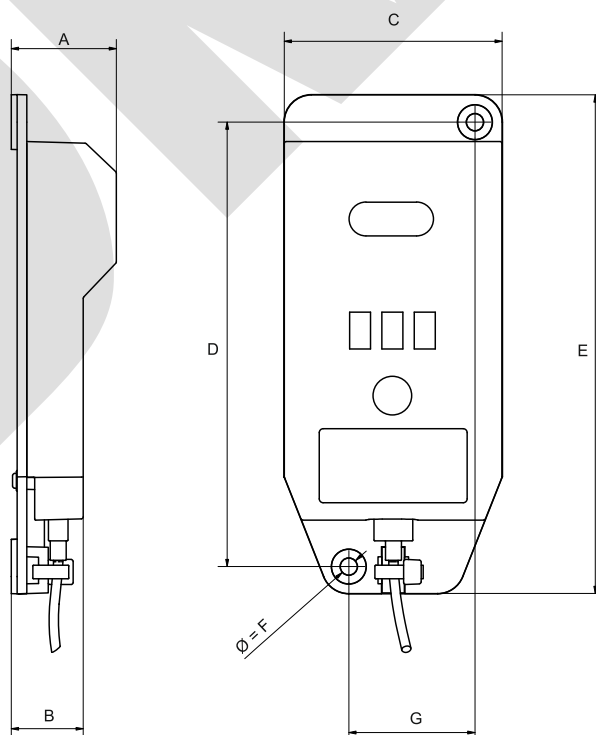

Figure 2 Dimensional drawing and mounting holes
- Drill the holes in the wall using the measures from Figure 2 Dimensional drawing and mounting holes.